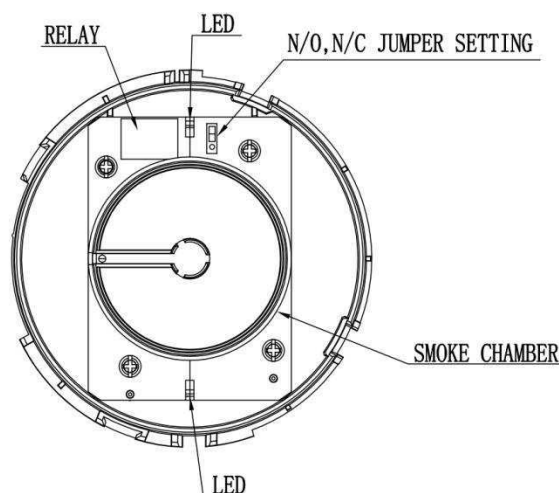

Fig. 2: Adjusting the output relay
2. Remove the jumper header located adjacent to the relay, and reinsert it in the NC position (see Fig. 2).